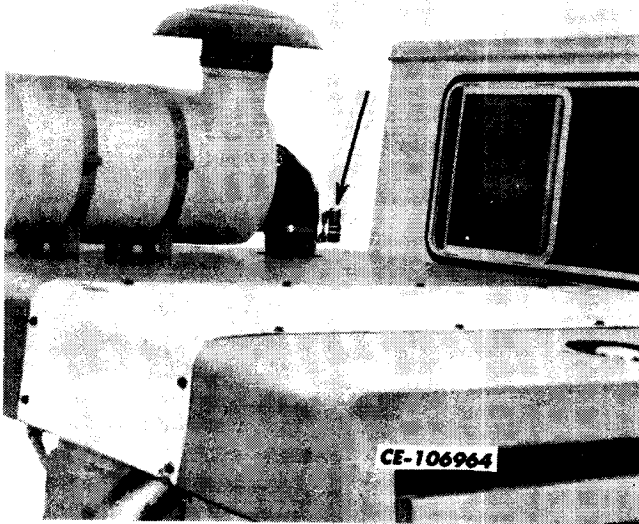

Fig. 2. Air Cleaner Service Indicator
9. AIR CLEANER SERVICE INDICATOR (Fig. 2)